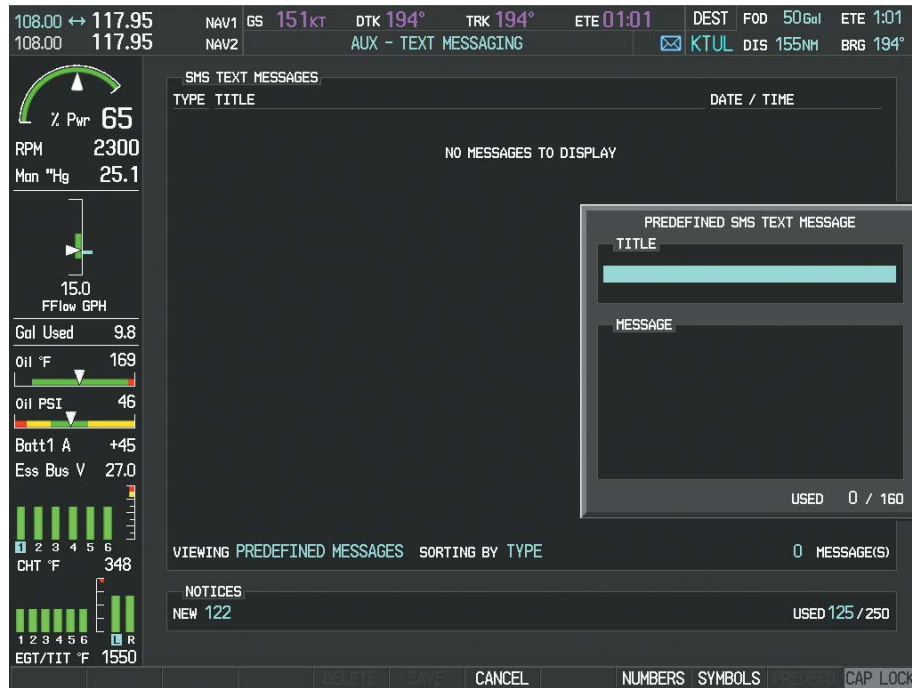

Figure 8-110 Composing a Predefined Message
c) Press the **ENT** Key. The PREDEFINED SMS TEXT MESSAGE Window is now displayed as shown in Figure 8-110.